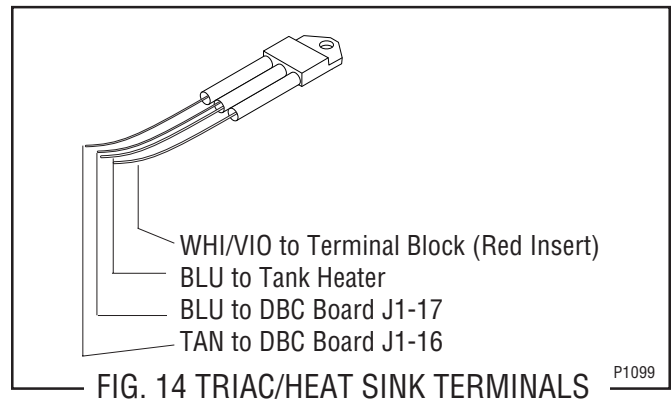

FIG. 14 TRIAC/HEAT SINK TERMINALS
9. Reconnect the wires of the new triac assembly. Refer to Fig. 14 when reconnecting wires.